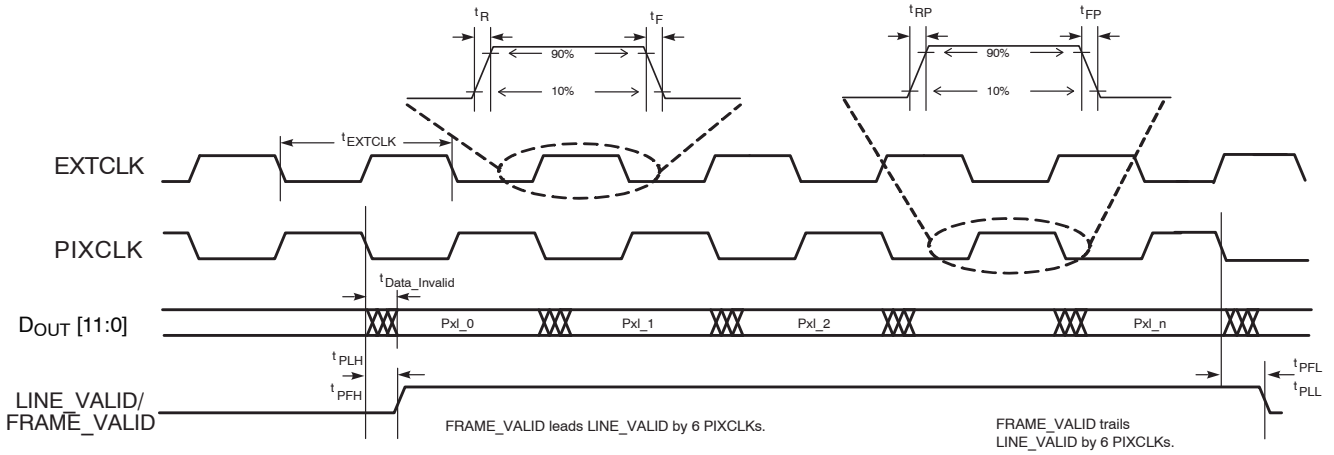

Figure 17. I/O Timing Diagram
See Figure 17 and Table 8 for I/O timing (AC) characteristics.